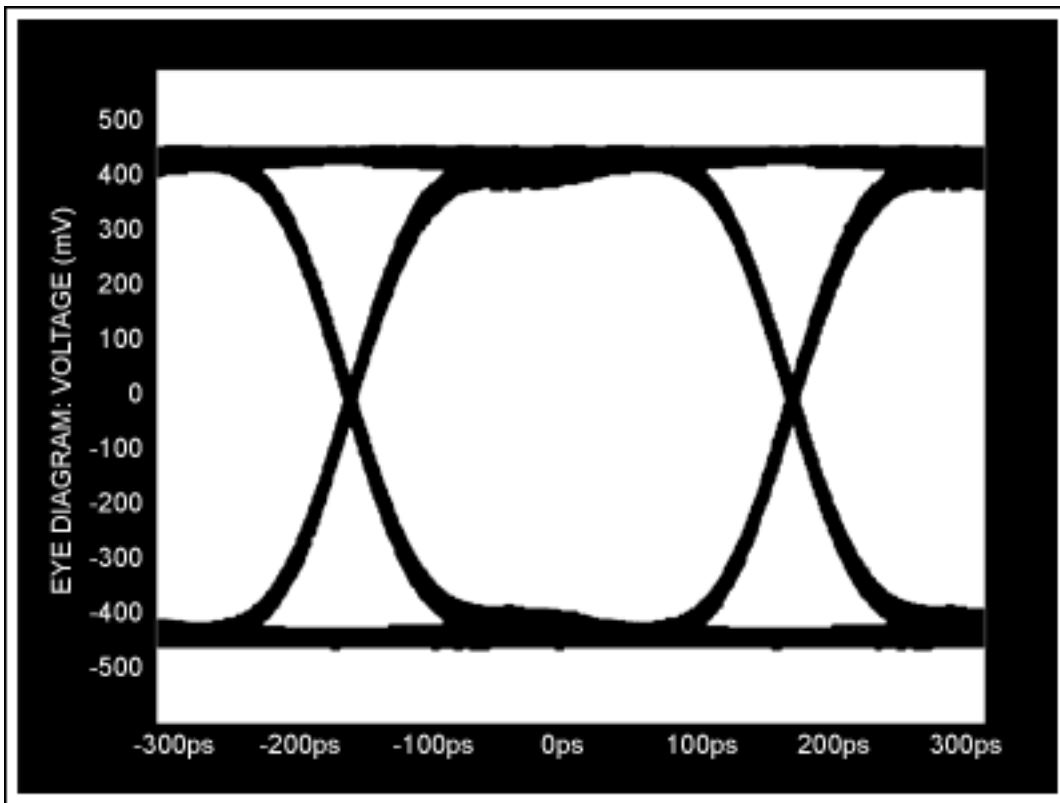

Figure 4. The MAX4951's eye pattern when operating at 3.0Gbps and an input of only 200mVp-p.
**Figure 4** shows the eye pattern for the MAX4951 operating at 3.0Gbps with only  $200\text{mV}_{\text{p-p}}$  at its input. The output is selected by a user pin. The MAX4951 has signals from both directions, and the output level for each is easily selected by strapping a pin for each direction.